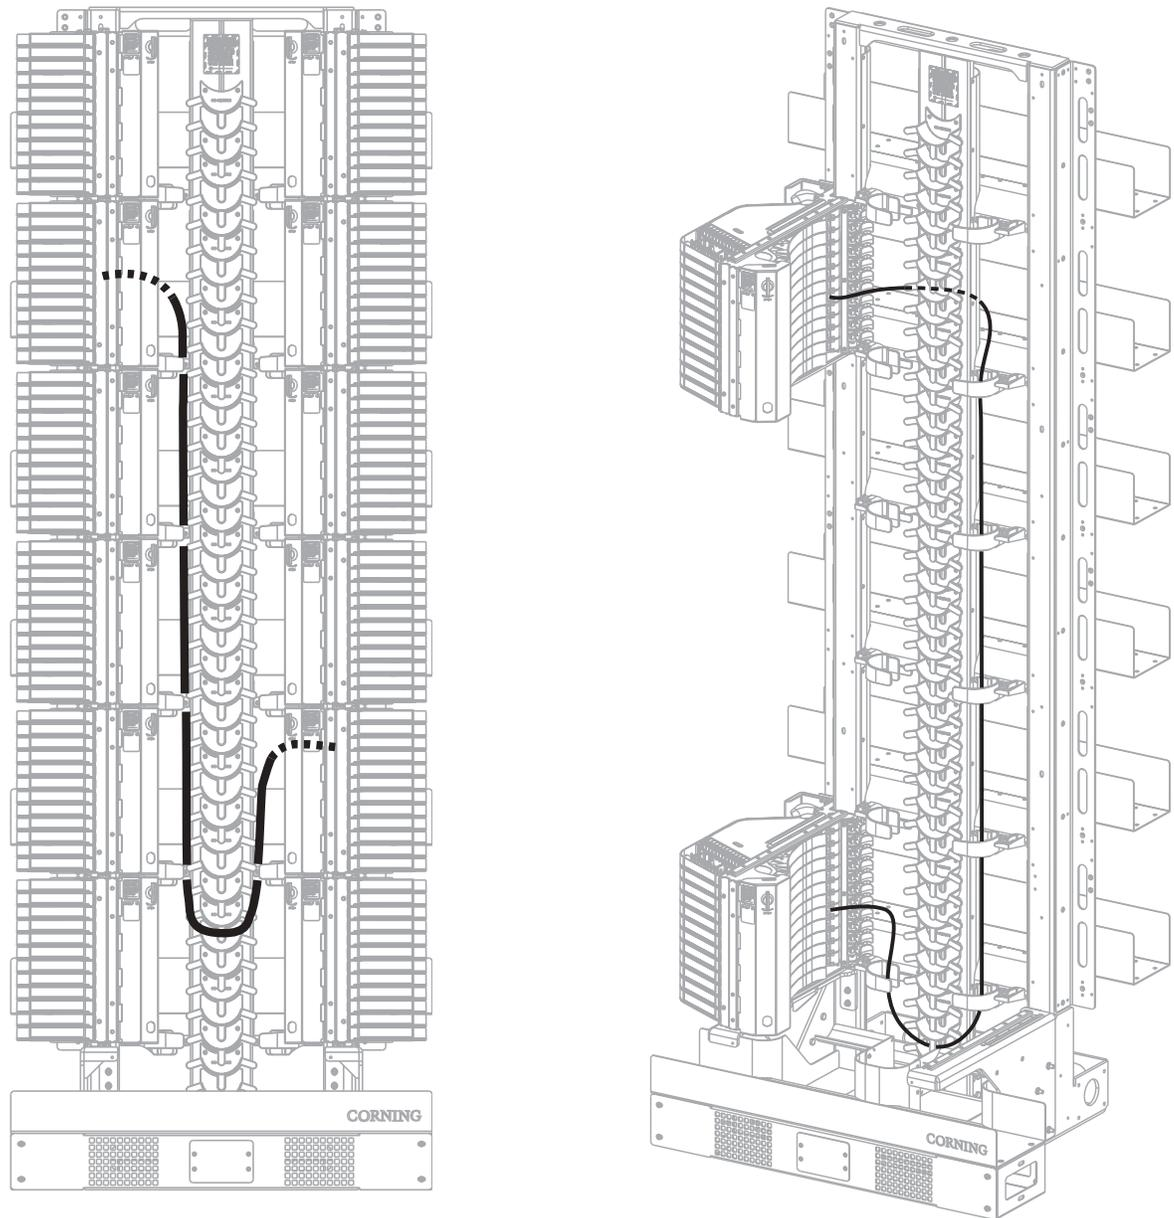

Figure 21 — In-bay patch cord dressing
- All connectors must be cleaned according to their manufacturer's instructions prior to termination. Connect the first end of the patch cord to the appropriate port, then rotate the module into the housing, connect the second end of the patch cord to its termination point, and dress the patch cord slack within the IBU as shown in Figure 21.